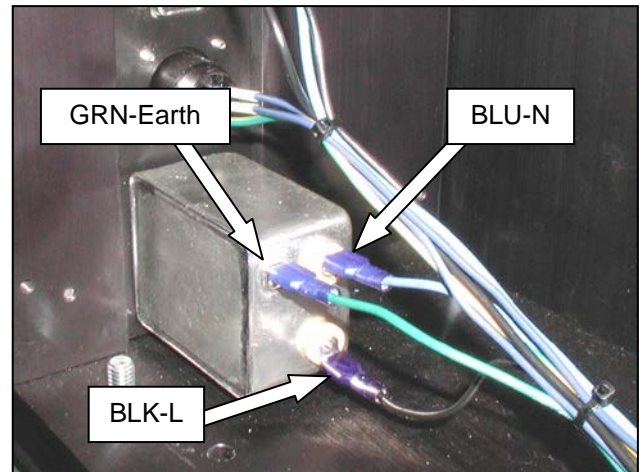

Figure 3-50. Wire colors and locations
8. Reattach the three connector wires, Earth (Green) on the left, Neutral (Blue) on the top right, and Live (Black) on the bottom (Figure 3-50).
10. Hand-tighten the four top screws, ensuring that the end of the Material Roll Mandrel is sitting inside the recessed circle of the Mandrel Support Plate (Figure 3-50).